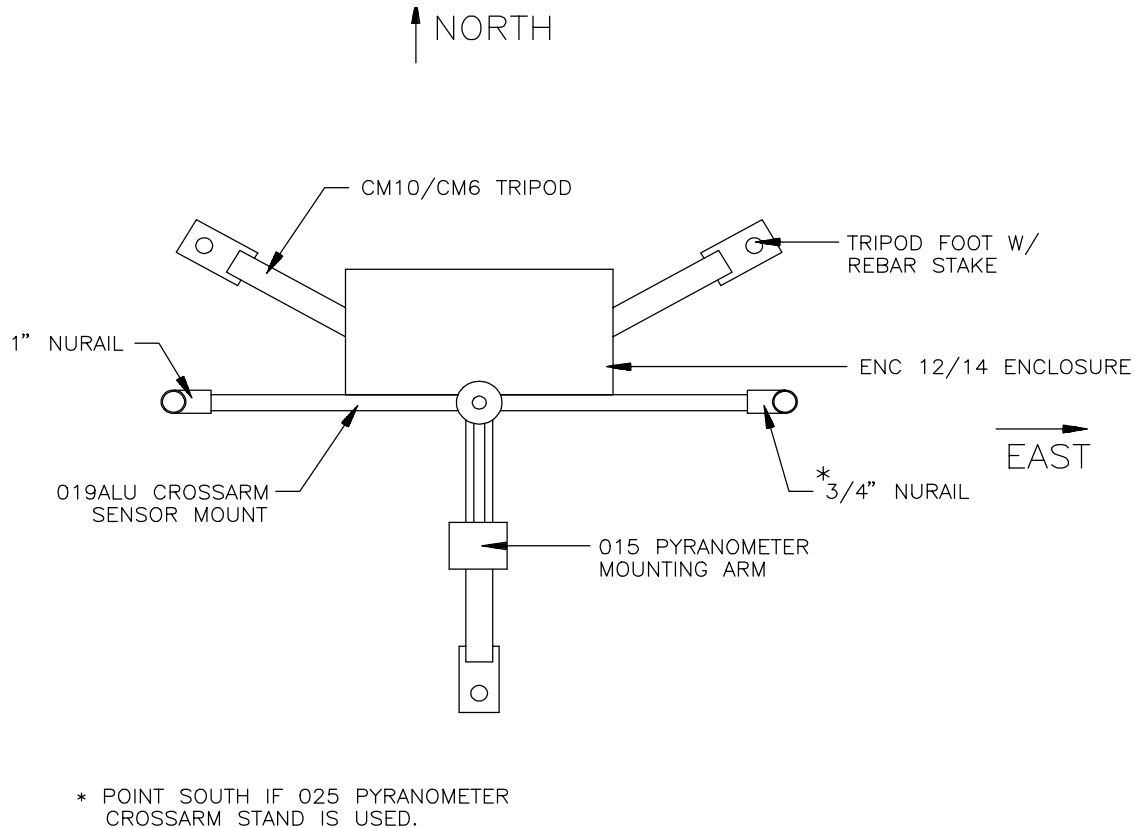

FIGURE 2-3. Tripod and Component Orientation
5. Stand the tripod upright and orient it so one leg points south (Figure 2-3). Extend the leg until the top of the slide collar is even with the mark from Step 3 and tighten the bolt. Extend the other legs in the same manner.
Mounting brackets provide a means of mounting the sensors to the tripod. Bracket mounting heights are referenced from the top of the bell reducer; orientation is shown in Figure 2-3.